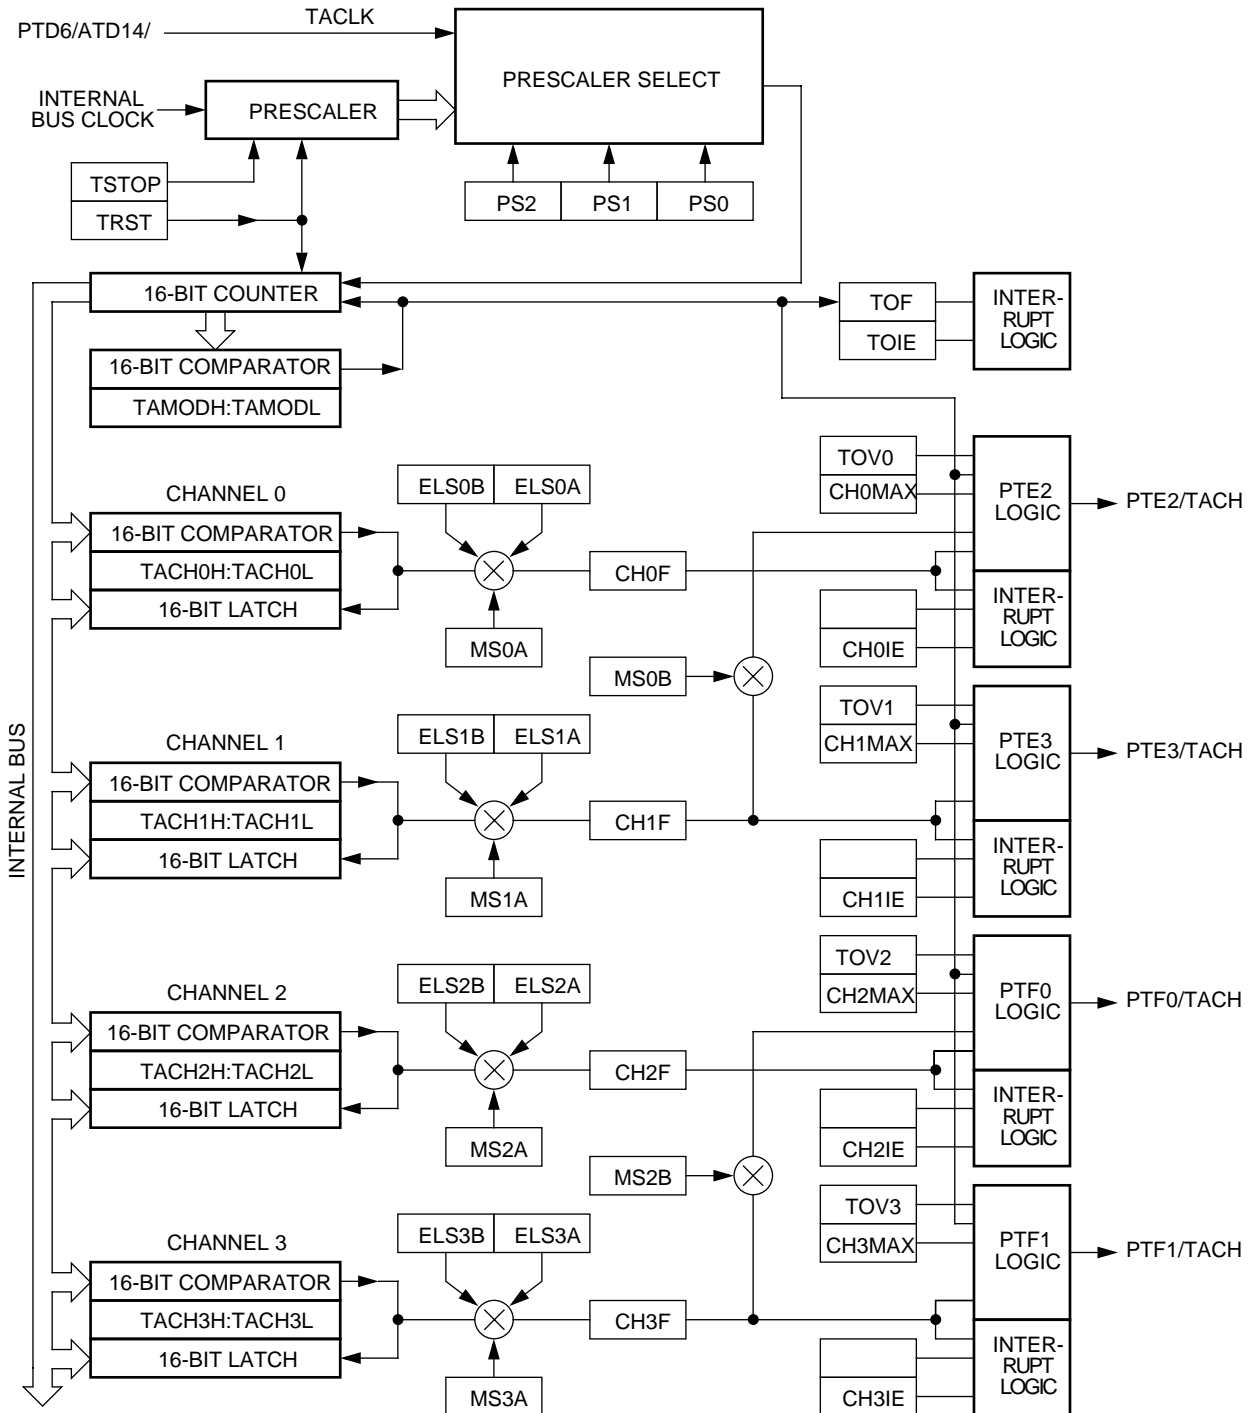

Figure 1. TIMA block diagram
This section describes the timer interface module (TIMA). The TIMA is a four-channel timer that provides a timing reference with input capture, output compare, and pulse-width-modulation functions. **Figure 1** is a block diagram of the TIMA.
**Figure 1** shows the structure of the TIMA. The central component of the TIMA is the 16-bit TIMA counter that can operate as a free-running counter or a modulo up-counter. The TIMA counter provides the timing reference for the input capture and output compare functions. The TIMA counter modulo registers, TAMODH:TAMODL, control the modulo value of the TIMA counter. Software can read the TIMA counter value at any time without affecting the counting sequence.